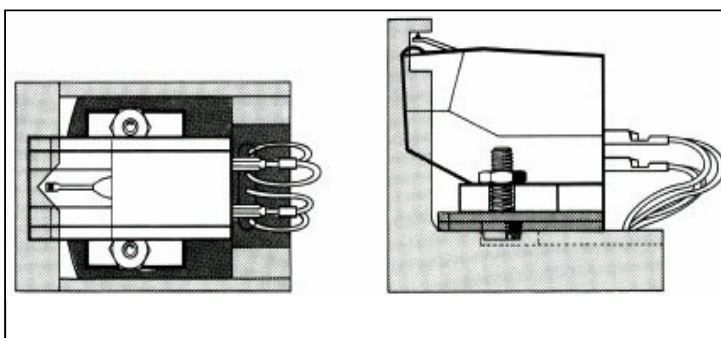

Fig. 9
For the precise adjustment of the so-called stylus overhang push the head shell with cartridge into the supplied mounting gauge. The adjustment is correct if the stylus is flush with the V-shaped recess in the gauge as viewed from above. When viewed from the side the stylus should be seen within the rectangular recess of the gauge (Fig. 9). Adjust the cartridge in the head shell until the correct positions are achieved. Lastly, tighten the mounting screws, put the head shell with cartridge back on the tone arm and tighten the collar-lock (9).